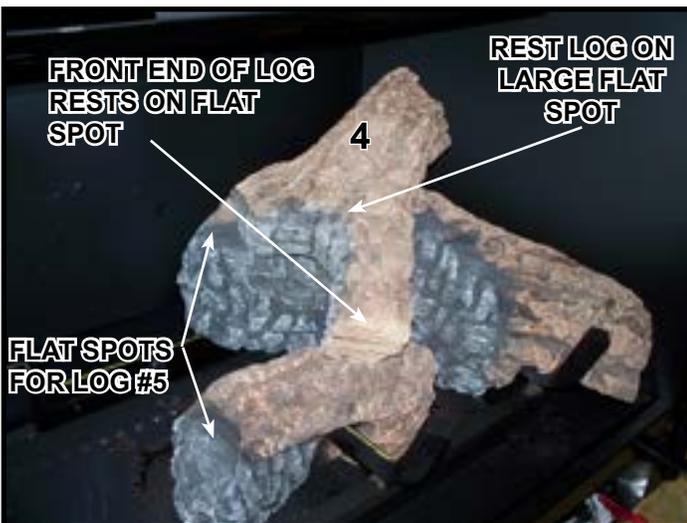
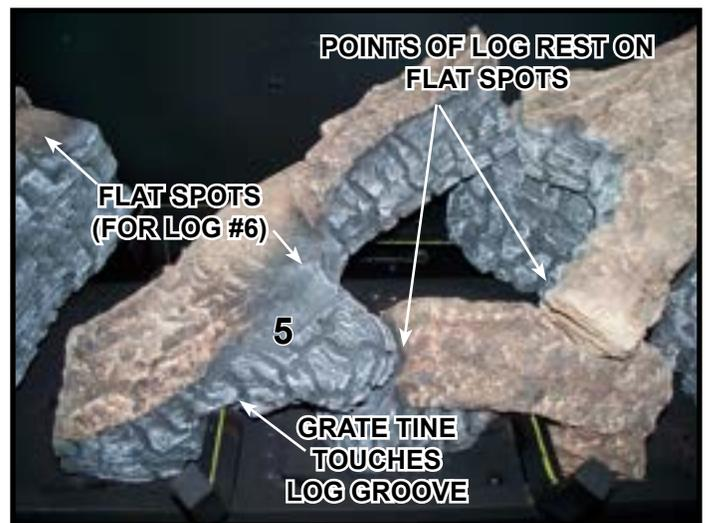
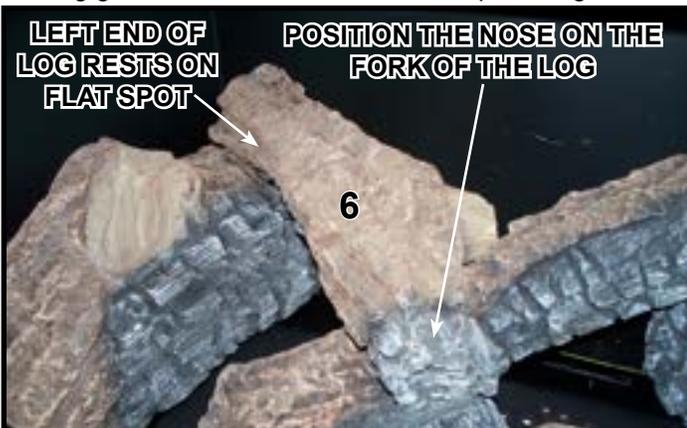

Figure 6. Place Log #4
Figure 7. Position Log #5
Figure 8. Position Log #6
**Log #4 (SRV2206-703):** Position Log #4 as shown in Figure 6. See Figure 3 for additional references. Place the thick end of Log #4 on the large flat spot on Log #1. Rest the front end of Log #4 on the flat spot of Log #2.
**Log #5 (SRV2206-704):** Position Log #5 as shown in Figure 7. See Figure 6 for additional details. Mate the grate tine with the log groove as shown. Position the tips of Log #5 on the flat spots as shown in Figure 6.
**Log #6 (SRV2206-706):** Position Log #6 as shown in Figure 8. See Figure 7 for additional references. Rest the left end of Log #6 on the flat spot of Log #3. Position the nose of Log #6 on the fork of Log #5.